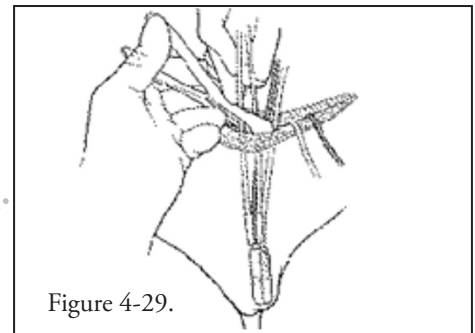

Figure 4-29.
14. Place the pump in the pouch, with the deactivation button facing outward so that it is palpable. Route the pump tubing to the inguinal area. (Figure 4-29)